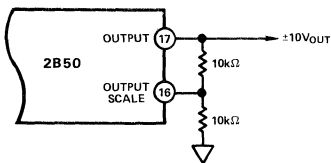

Figure 5. Output Scaling Connections
- 6 Output swing of ±10V may be obtained through output scaling (Figure 5).
With the output scale (Pin 16) connected to the output (Pin 17), the full scale output range is  $\pm 5\text{V}$  and the total gain is equal to the gain set by RG. For applications requiring a full scale output of  $\pm 10\text{V}$ , a resistive divider may be connected to provide a gain of 2 at the output amplifier (see Figure 5). In this configuration, total gain will be twice the gain set by RG. Output gains greater than 2 cannot be used.